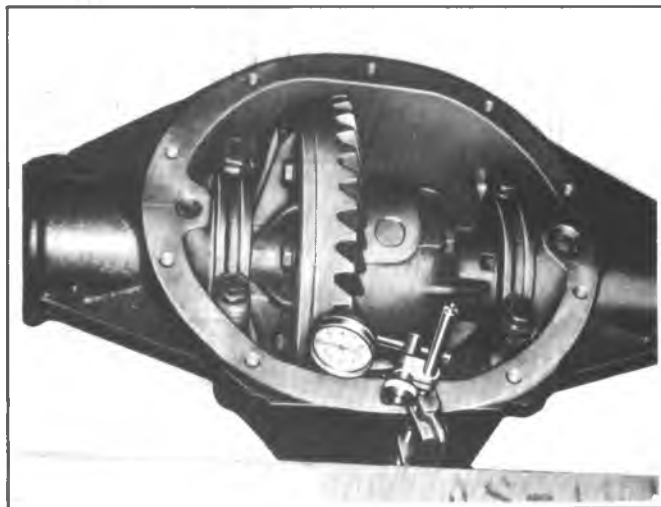

Fig. 10B--Checking Ring Gear Backlash
13. Mount a dial indicator on the carrier and check the backlash between the ring gear and pinion, as shown in figure 10B. The backlash should be within the range of 0.005"-0.008". Check gear lash at four different equally spaced positions around the gear. Variation in readings should not exceed .001". Position the dial indicator so that indicator button is perpendicular to tooth angle and in line with gear rotation.